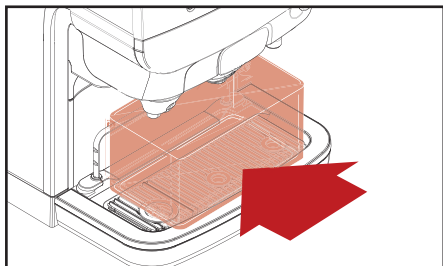

Fig. 5.7 - Place container
8. Place the container (fig. 5.7) under the product outlets and press ↩ to start flushing.
8. Place the container (fig. 5.7) under the product outlets and press  to start flushing.